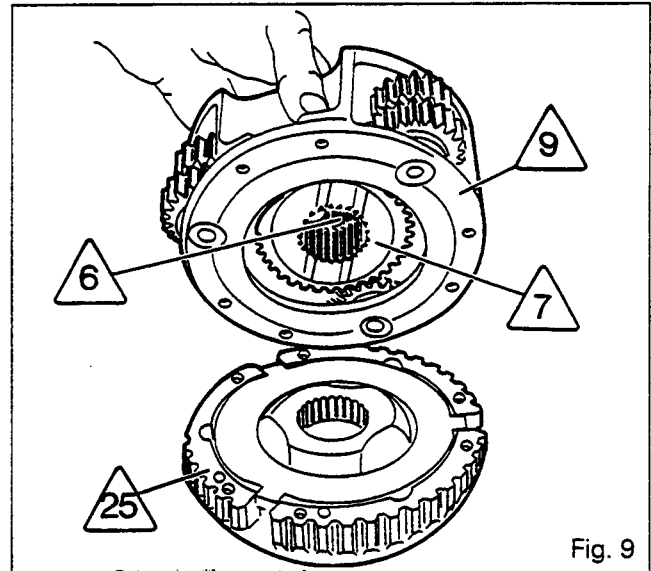

Fig. 9
17. Place the planetary carrier assembly (50) down on a bench (with the planetary carrier cover /9\ on top).
18. Unscrew bolts (3).
19. Separate planetary carrier cover /9\ from hydraulic cover /25\ while holding sun gears /6\ and /7\ in position in planetary carrier cover (Fig.9).